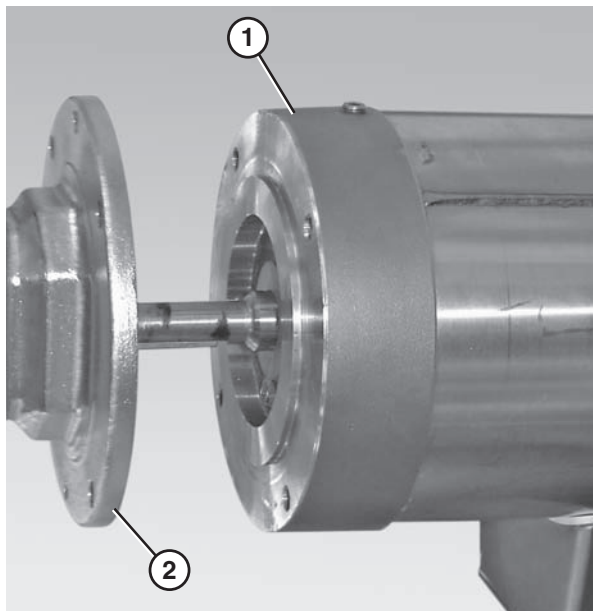

Figure 61
6. Detach the motor (**Figure 61, item 1**) from the gear reducer (**Figure 61, item 2**).